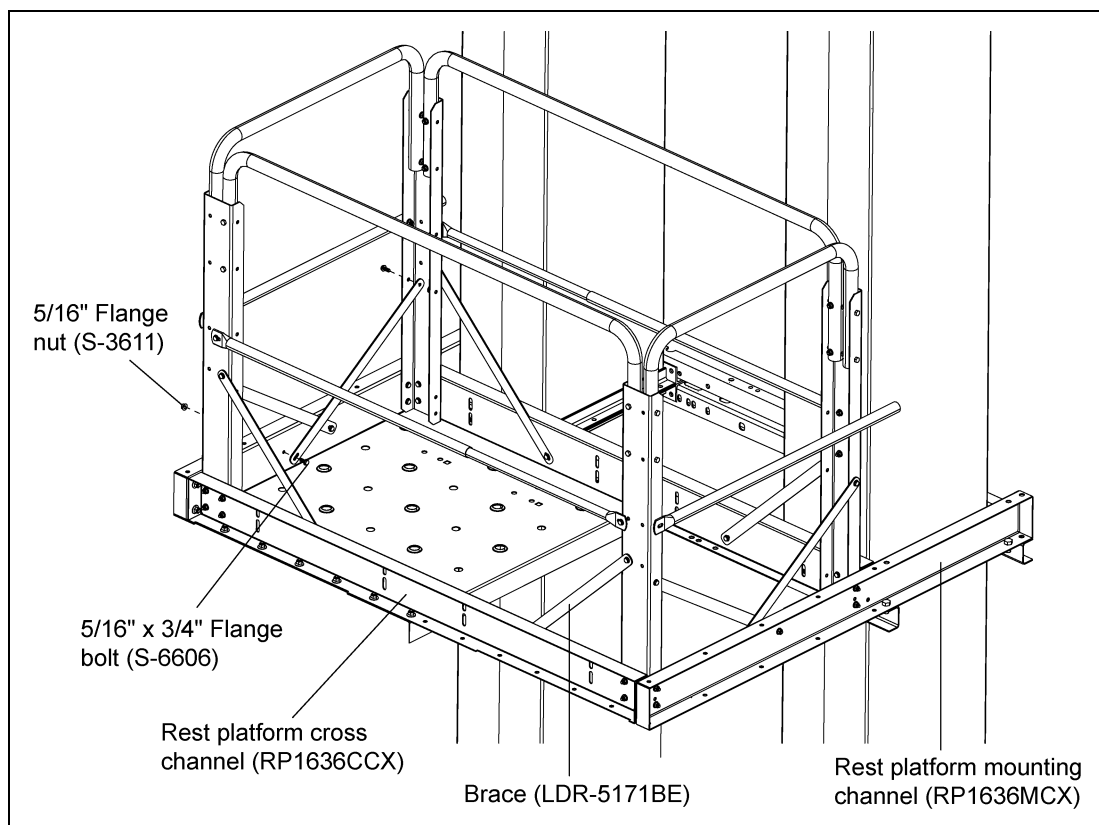

Figure 6Q
8. Platform braces must be installed from handrail posts to mounting and cross channels using 5/16" x 3/4" flanged hex bolts. Braces should be attached to the outside of the platform post and to the inside of the mounting and cross channels. **NOTE:** Bolt heads should be on inside of platforms. (See Figure 6Q.)